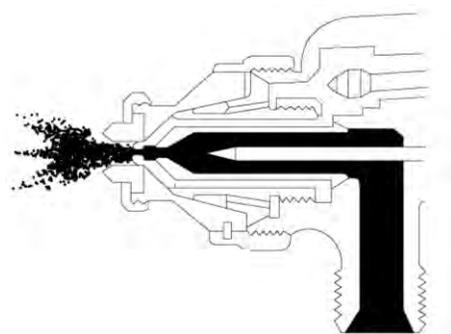

Figure 3-9. Internal spray gun.
- A. **Internal**—Air and gel coat meet inside the gun head and come out a single orifice (Figure 3-9). This system is not recommended for gel coats, except for one or two special type products, since it has a tendency to cause porosity and produce a rougher film. It also requires a solvent flush system. The internal mix nozzle is often employed in high production applications of materials where fine finish is not required. The internal mix air nozzle can be used only with pressure-feed systems.